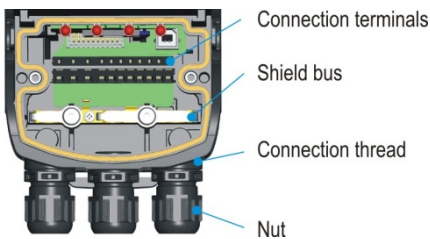

Figure 10: Shielding principle - ANTARES connection modules for non-armoured cables
5. Only one end of the cable has to be shielded. Therefore use the mounted shield bus inside of the RCU (Fig. 10 and 11).
9. Connect one end of the shield to the shield bus (fig. 10 and 11) (example - see "Terminal assignment for the PROFIBUS DP variant of the ANTARES RCU").